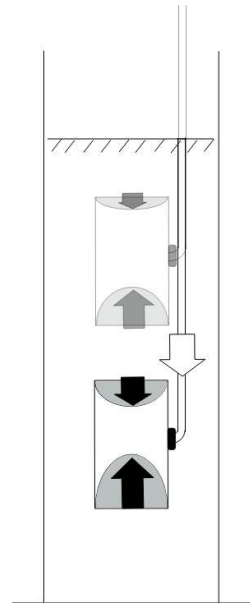

Fig.4
4. Sink the indicator deeper than the beginning position. Check and record the phenomenon of the rubber film at this position (see Fig.4).